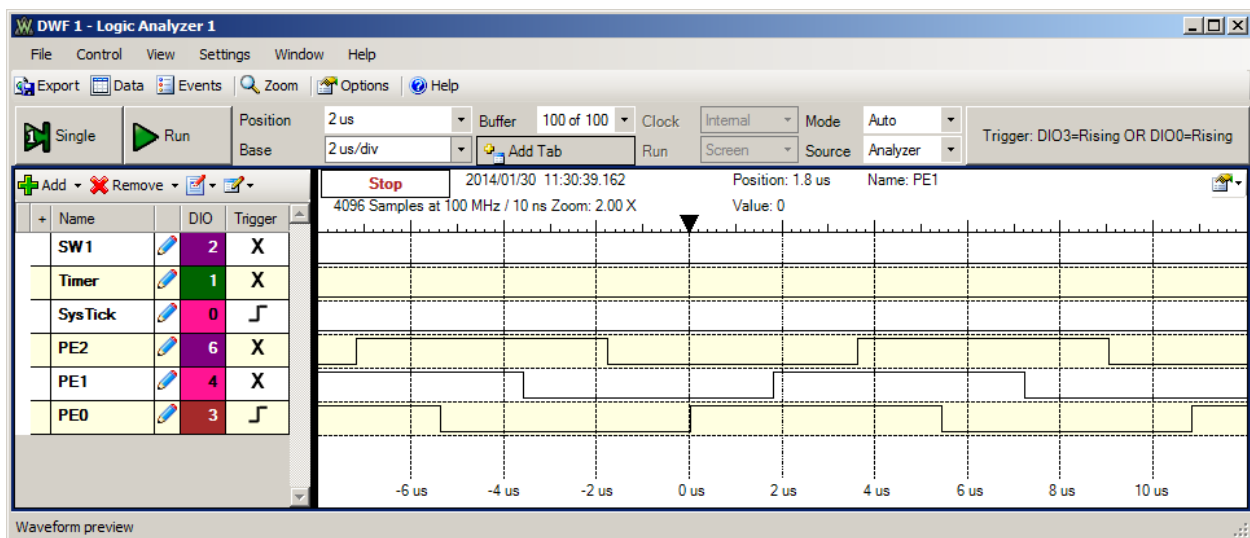

Figure 2.1. Logic analyzer profiling for cooperative thread switching.
*Testmain1* needs a cooperative thread scheduler with no interrupts. Each thread will suspend itself each time through the loop by calling **OS\_Suspend()**. When *Testmain1* executes, the PE0, PE1, PE2 outputs will look like Figure 2.1, and the three count variables will be equal ( $\pm 1$ ). In Figure 2.1, each toggle means a thread has started a pass through its main loop. For this system, these threads are running every 1.8  $\mu$ s. Figure 2.1 shows no interrupts from the switch, timer, or SysTick.